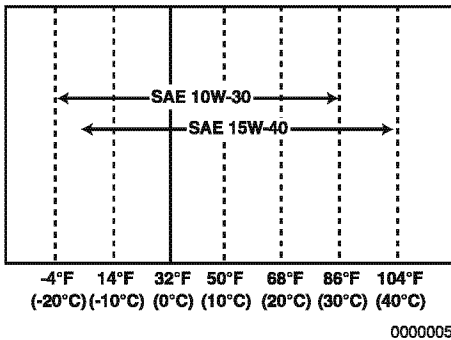

Figure 4
- Select the oil viscosity based on the ambient temperature where the engine is being operated. See the SAE Service Grade Viscosity Chart (**Figure 4**).
Select the appropriate engine oil viscosity based on the ambient temperature shown in the SAE Service Grade Viscosity Chart in **Figure 4**.